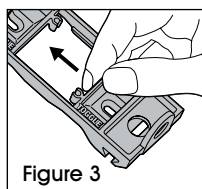

Figure 3
- To change between "TOGGLE" and "ROCKER," apply firm pressure to remove Dual-Purpose Switch Slide from base. Flip the slide over and snap back into place. Repeat on second slide. (See Figure 3)